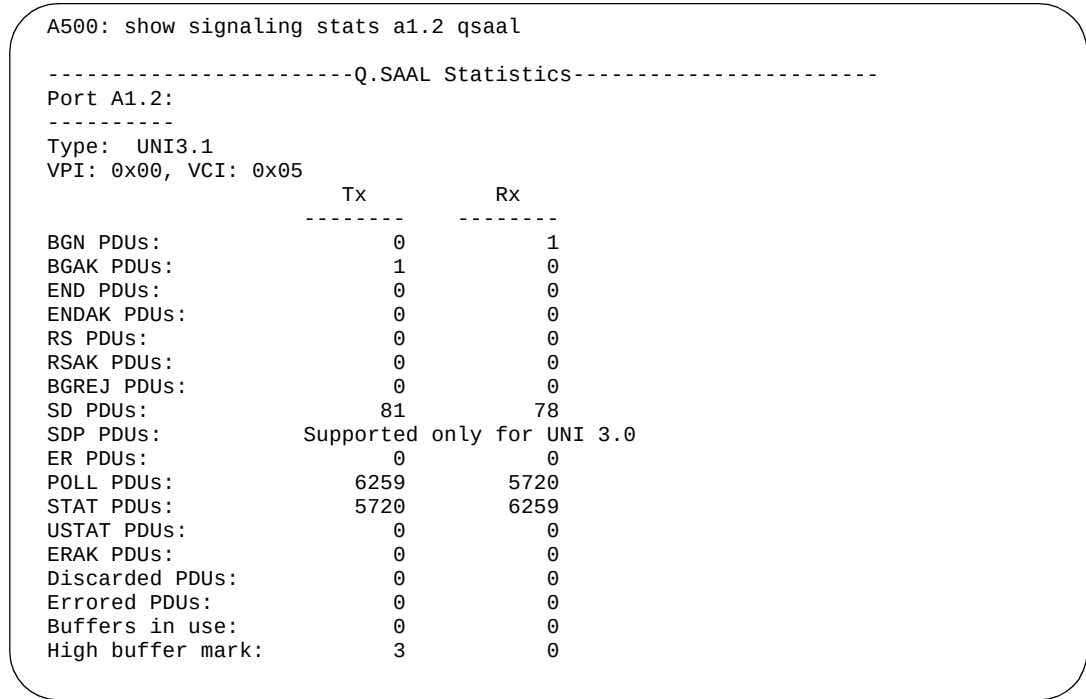

Figure 1-52. A500: show signaling stats a1.2 qsaal screen
1. Enter **show signaling stats port qsaal** on the A500 console. Figure 1-52 shows the screen output.